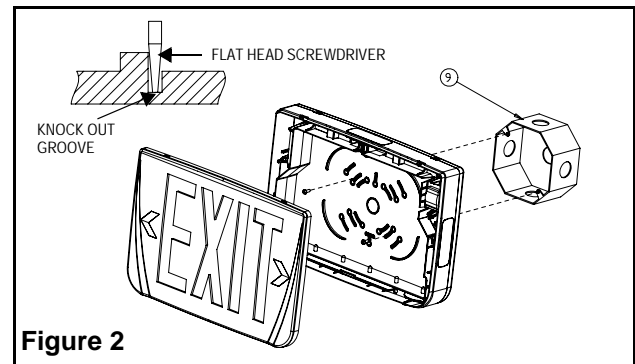

Figure 2
- a. No canopy required. With the help of a flat head screwdriver, knock out the proper hole pattern in the back cover to mount to a standard junction box (See Fig. 2). Feed the AC supply leads out through the center hole and make the proper connections. Feed the excess wire into the junction box and secure the back cover to the junction box using the junction box screws. Proceed to step 6.